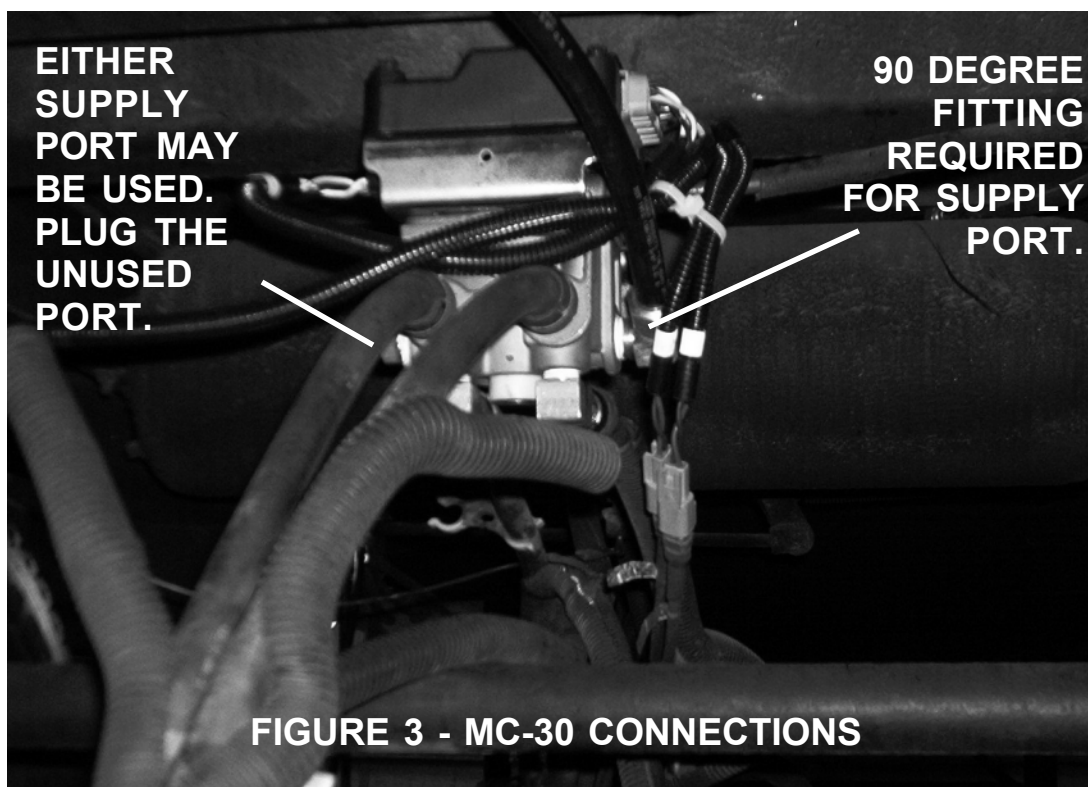

FIGURE 3 - MC-30 CONNECTIONS
- Connect the MC-30 wiring harness as shown in Figure 3.